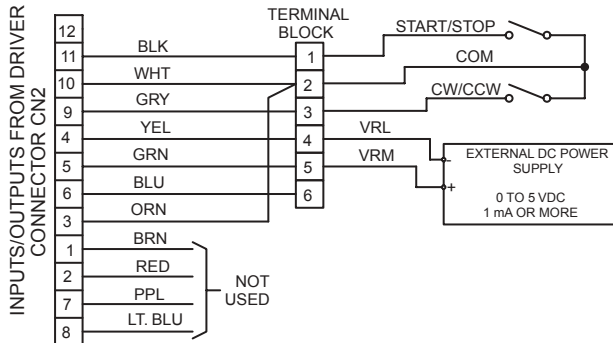

Figure 10
4. Wire DC control speed signal negative to location 4 and positive to location 5 as shown in (**Figure 10**).